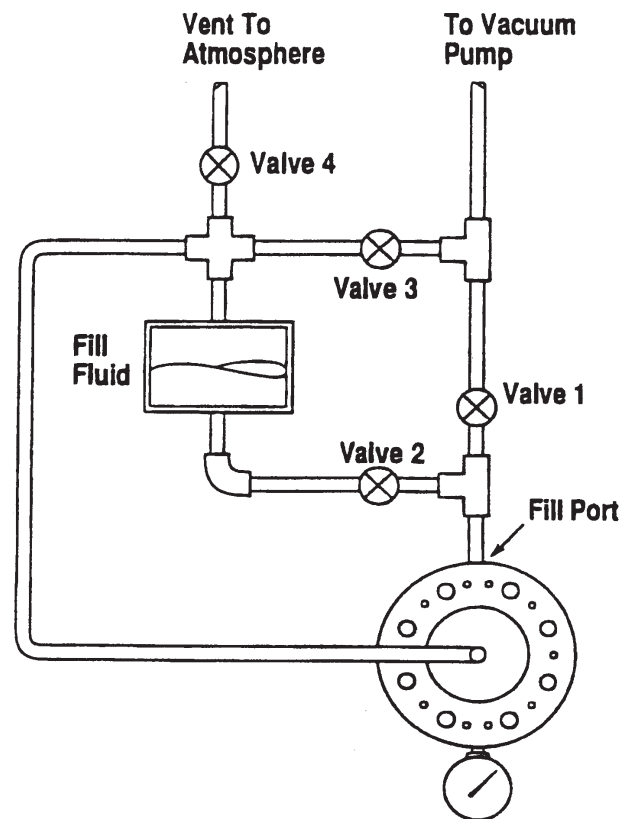

Figure 1
2. Remove the NPT plug. Connect the sensor as shown in Figure 1.